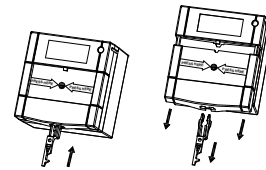

Fig. 3: Separate the front face from the body
NOTE: The unit comes separated from the back-box, ready for installation. However, if necessary, separate the front face from the body by inserting the reset key and gently pulling the lower portion of the front face down and away from the body. Removing the operating element will expose the screws that hold the body to the back-box (see Figs. 3 ~ 5).
Select the manual call point address and set the address as shown in Table 1 by adjusting the DIP switch setting located on the rear of the body (see Fig. 3).
1. Separate the front face from the body by inserting the reset key and gently pulling the lower portion of the front face down from the body (see Fig. 3).